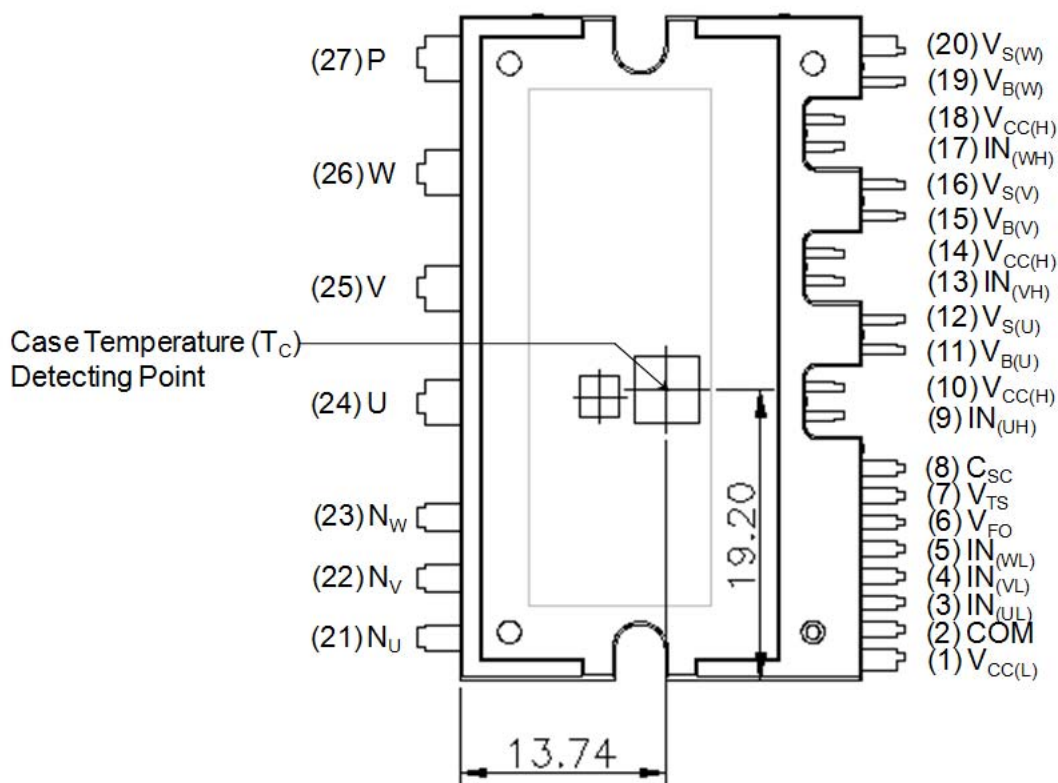

Figure 2. Top View
- For the measurement point of case temperature (T_C), please refer to Figure 2.